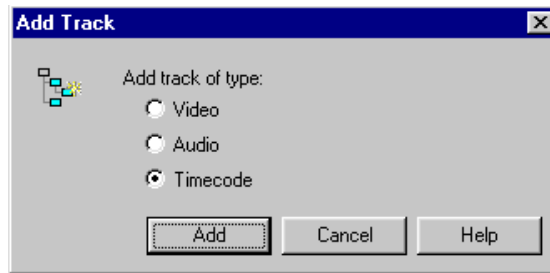

Figure 162. Add Track dialog box for timecode
2. To add a timecode track, click the **Add Track** button. In the Add Track dialog box that appears (see Figure 162), click **Timecode**, then click **Add**. The new timecode track icon will appear in the configuration tree.